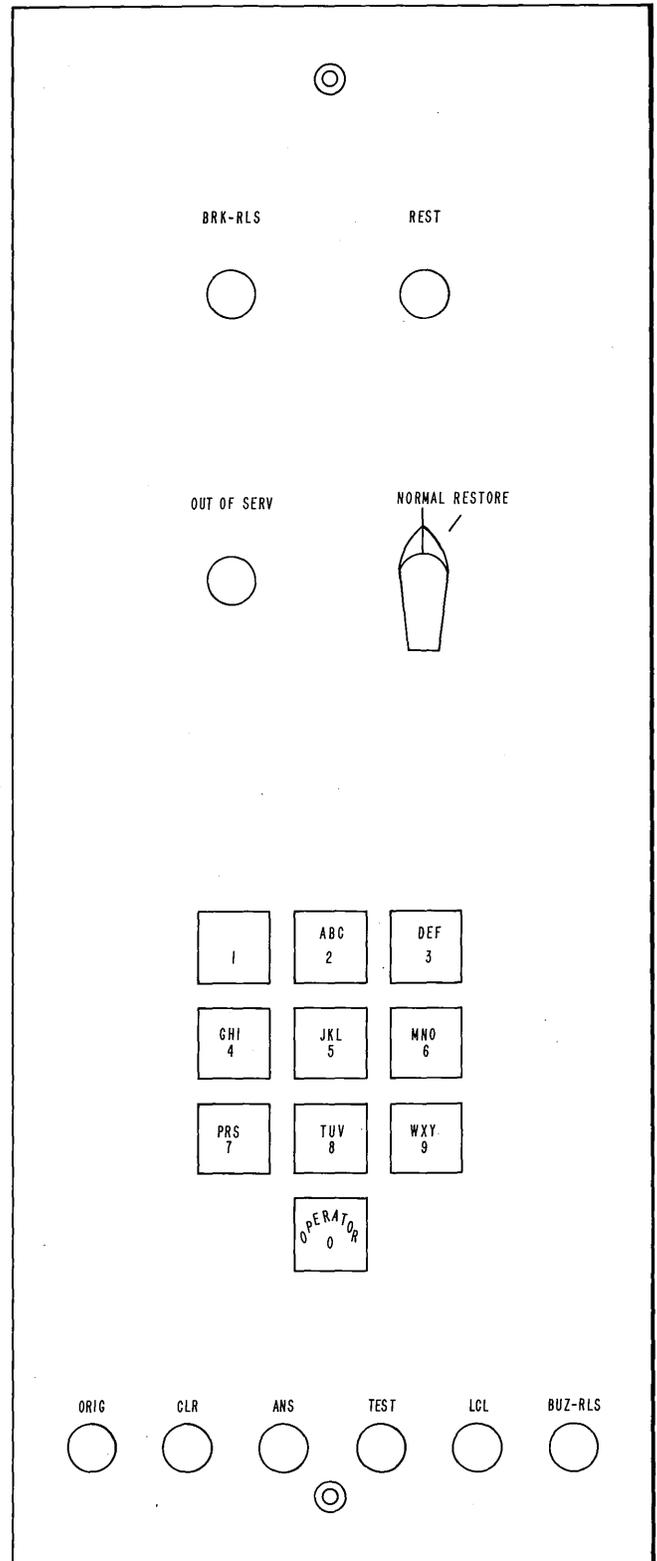

Fig. 11—Call Control Unit
**3.12** The call control unit is located at the extreme right of the TTY page printer. It contains circuitry for setting up station connections, transmitting to a slower speed station, and providing maintenance indications. See Fig. 11. The four external controls located at the top of the unit are as follows: